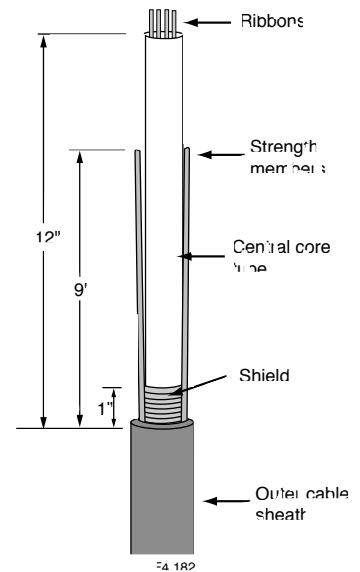

Fig. 10
2. Carefully cut the central core tube 12" from the sheath ring cut. (Figure 10)